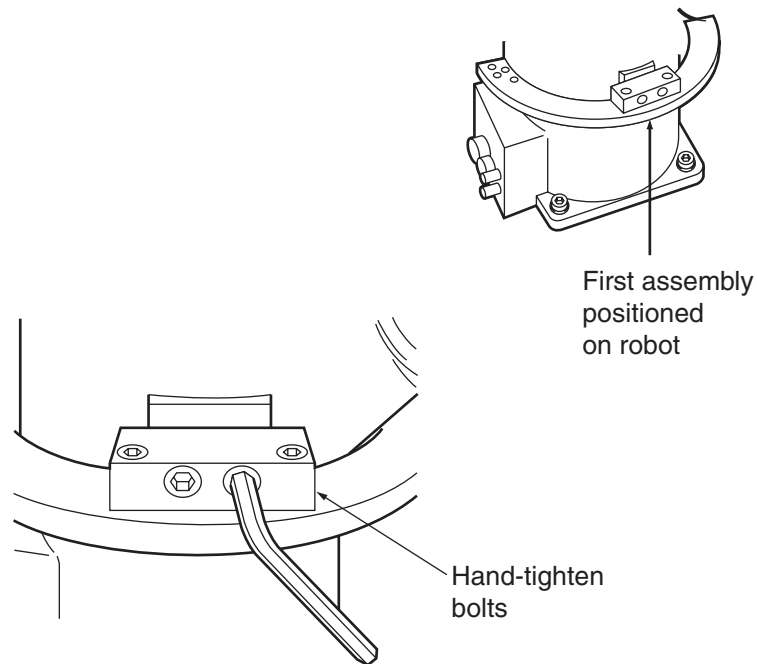

Figure 1-9. Assembly 1 Positioned on Joint 1
4. Temporarily secure one of the assemblies made in the above two steps to one of the sets of threaded holes on the sides of the robot. Use two hex, socket-head bolts. Orient the assembly as shown in Figure 1-9.